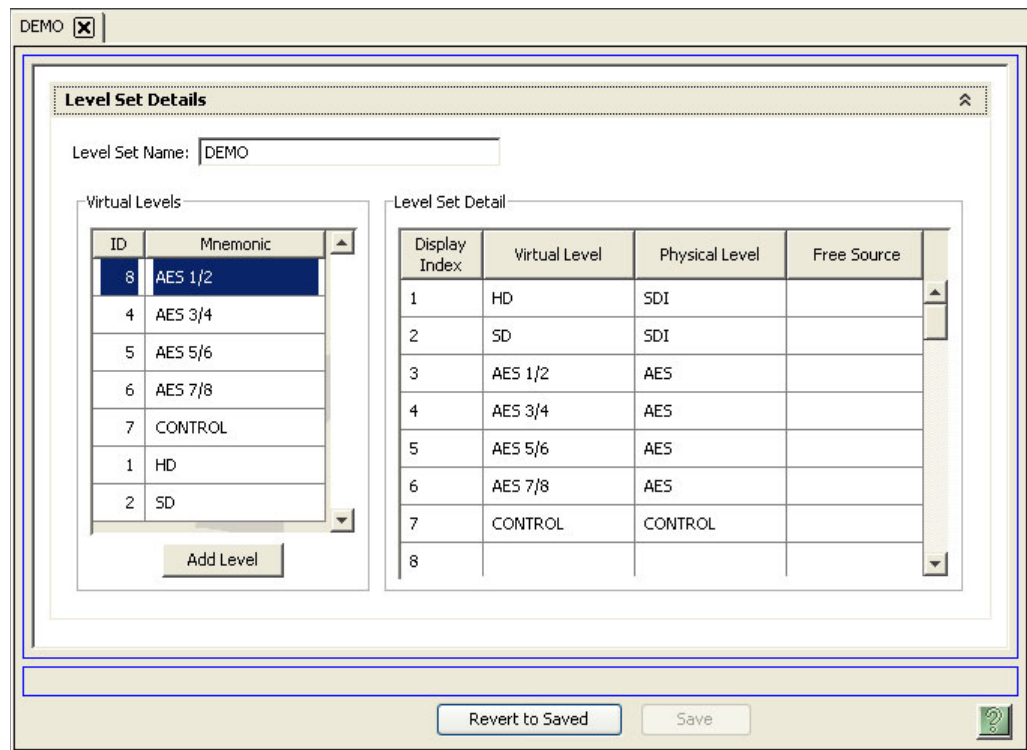

Figure 8-6. Level Set Details Page
- 3 Double click on a single row to open the 'Level Set Details' page for that level set, as shown in Figure 8-6.